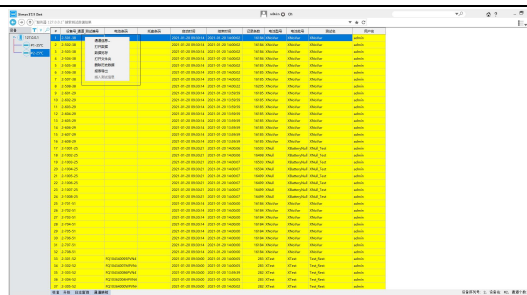

Figure 4-4 Search result setting
- Fuzzy search: Click the search button, fuzzy search is used to display channel data information for all online devices under the current mid-machine. You can perform operations on the search results as required, as shown in Figure 4-4: